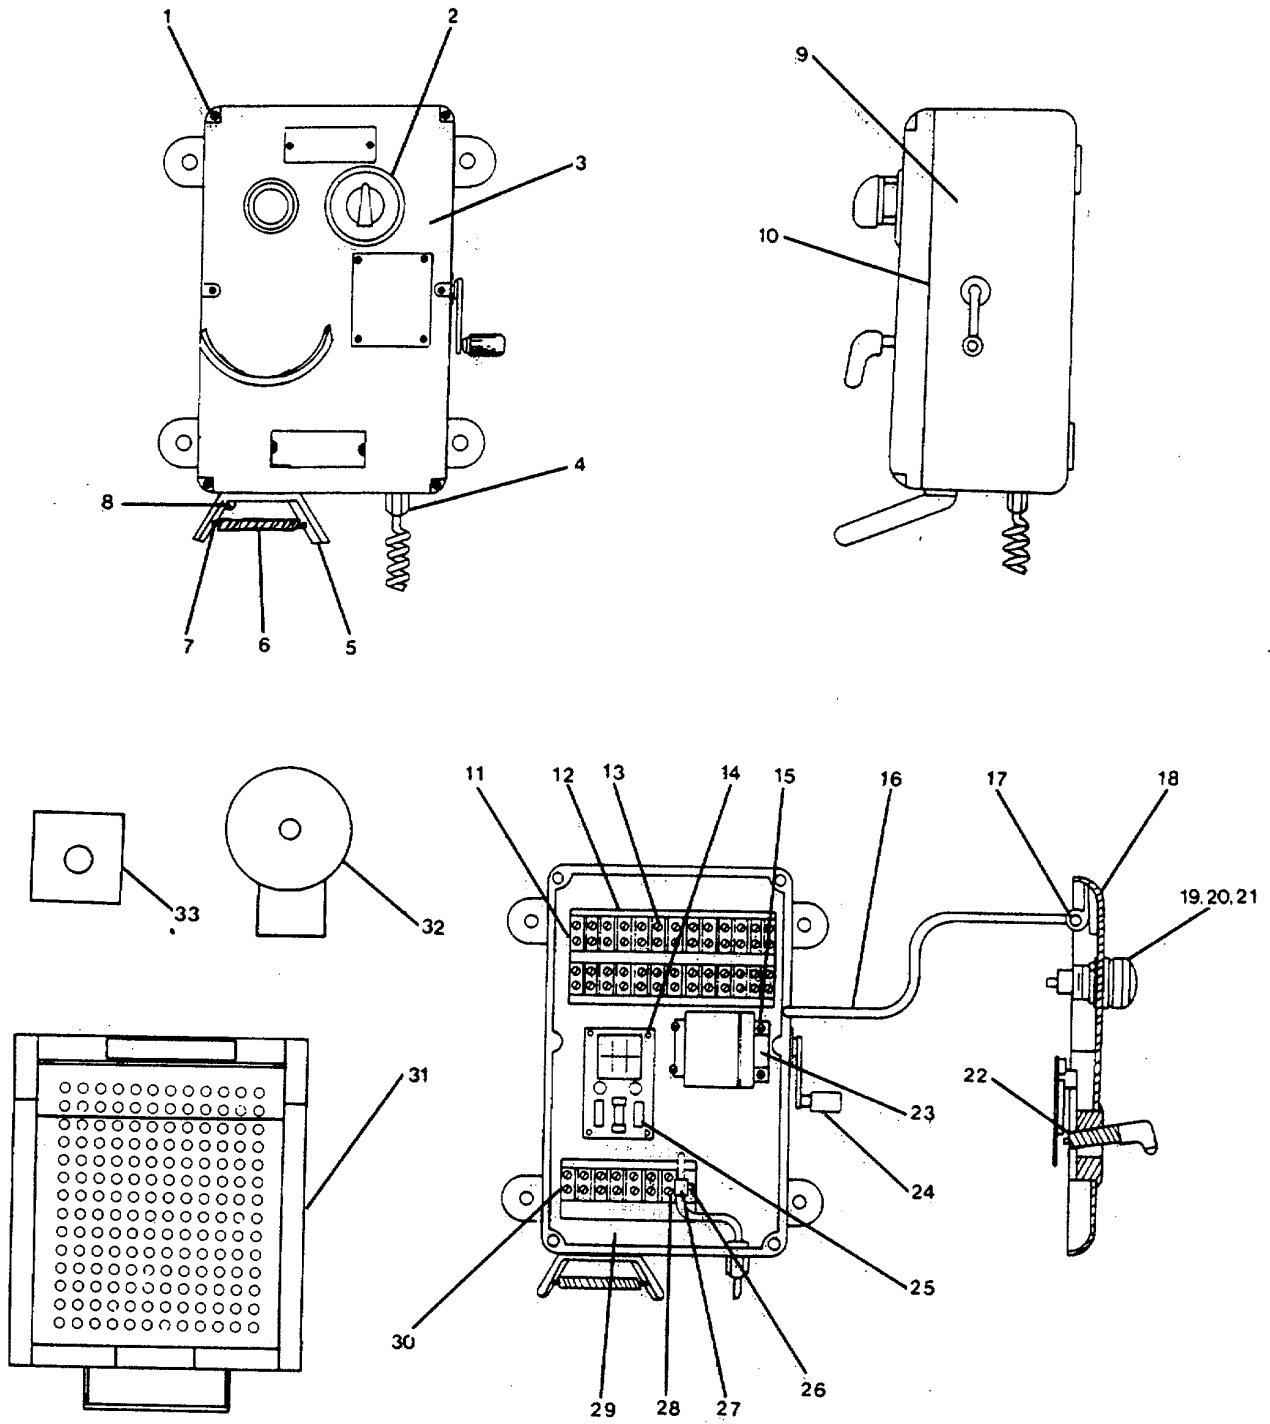

FIGURE 3-32. *Sound Powered Telephone SELR (MOD)-19.*
- f. Install manual control handle (8) and hand ringing generator (9).
- g. Install drive screw (17).
- h. Install telephone box (7). Remove tags and connect electrical leads.
- i. Install cotter pin (16)', bracket spring (15), and headset bracket (14).
- j. Install self-locking screw (13).
- k. Remove tags, connect electrical leads and install telephone selector switch (2).
- l. Install gasket (4) and telephone cover (3).
- m. Install self-locking screws (1).
**3-35. REPAIR SOUND POWERED TELEPHONE SELR (MOD)-19. (Figure 3-32)**